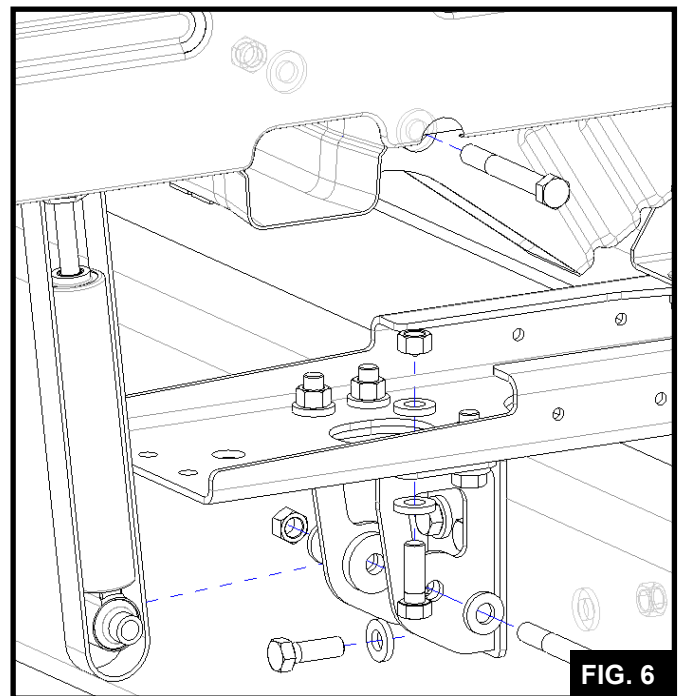

FIG. 6
Mount the new drivers side frame bracket to the frame using the (4) 1/2 X 1 1/2 bolts, (4) nuts and (4) washers provided. (FIG.6).
Connect the new crossmember assembly to the frame brackets using the (8) 1/2 X 1 1/2 bolts, (8) nuts and (8) washers provided (FIG.6). (4 per side)
Using the (2) black straps provided, slip one around the length of each new ROI shock (FIG.6).
Bottom connection: (1) 1/2 X 4 1/2 bolt, (1) nut (1) washer (FIG.6).